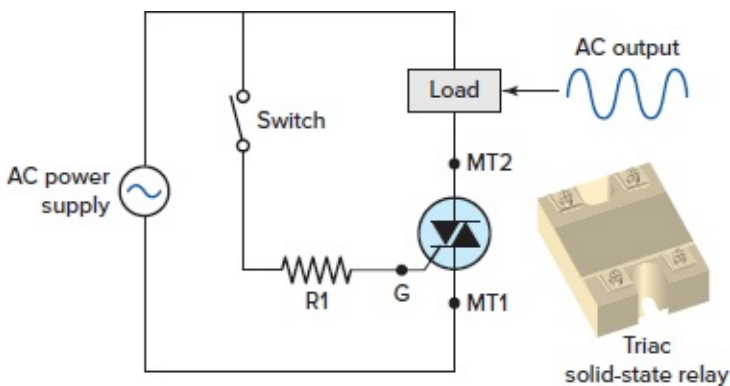

Figure 9-38 Triac switching circuit.
The triac may be triggered into conduction by either a positive or a negative voltage applied to its gate electrode. Once triggered, the device continues to conduct until the current through it drops below a certain threshold value, such as at the end of a half-cycle of the alternating current (AC) mains power. This makes the triac very convenient for switching AC loads. The triac is an almost ideal component for controlling AC power loads with a high (on/off) duty cycle. Using a triac eliminates completely the contact sticking, bounce, and wear associated with conventional electromechanical relays. The schematic of a triac switching circuit is shown in Figure 9-38. Maximum output is obtained by utilizing both half-waves of the AC input voltage. The operation of the circuit can be summarized as follows: